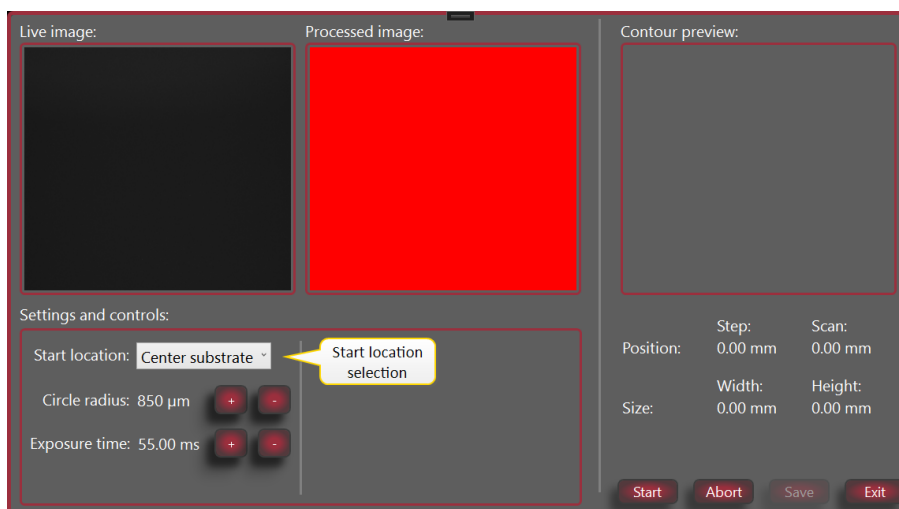

Figure 3-26 Polygon scan window
3. Select **Scan contour**. The polygon scan selection window appears, see **Figure 3-26 below**.